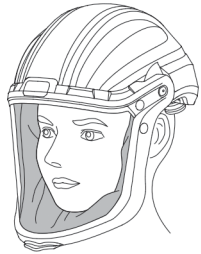

fig.1a
Step 1: Put the face shield on and adjust the face seal, make sure the face seal is fully sealed around the face (See fig.1a).